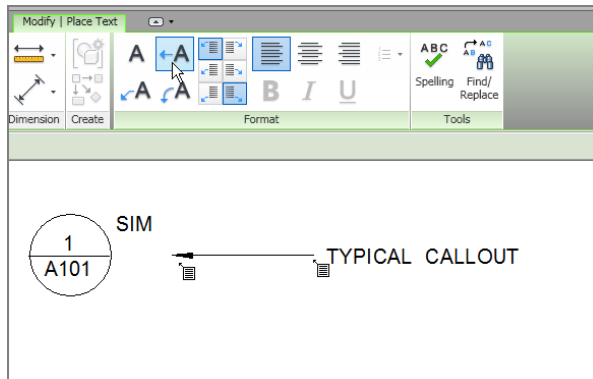

FIGURE 11.48: Adding the text to the legend
2. On the Modify | Place Text tab, click the One Segment button, as shown in Figure 11.48.
3. Pick two points for the leader, and type **TYPICAL CALLOUT** (see Figure 11.48).